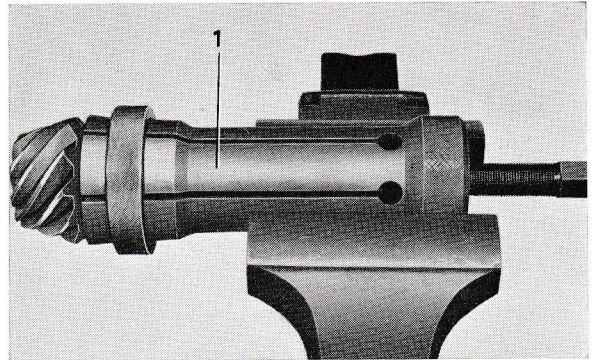

Fig. 25. Removing the rear pinion bearing.
11. Pull the rear bearing (26) from the pinion (16) if required, using puller SVO 2164, see Fig. 25.